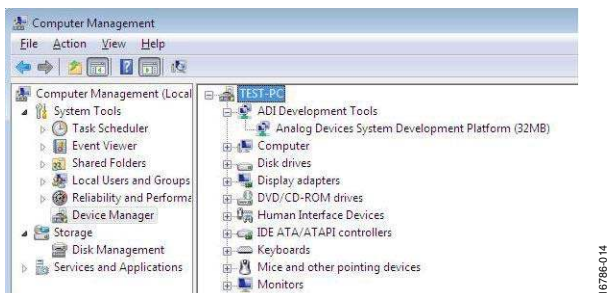

Figure 14. Device Manager
- When the **SDP-H1** controller board is first plugged in via the USB cable, allow the new found hardware wizard to run. Look at the **Device Manager** of the PC to ensure that the **ADI SDP drivers** and the **SDP-H1** controller board are connected properly. **Analog Devices System Development Platform (32 MB)** appears under **ADI Development Tools** (see Figure 14).